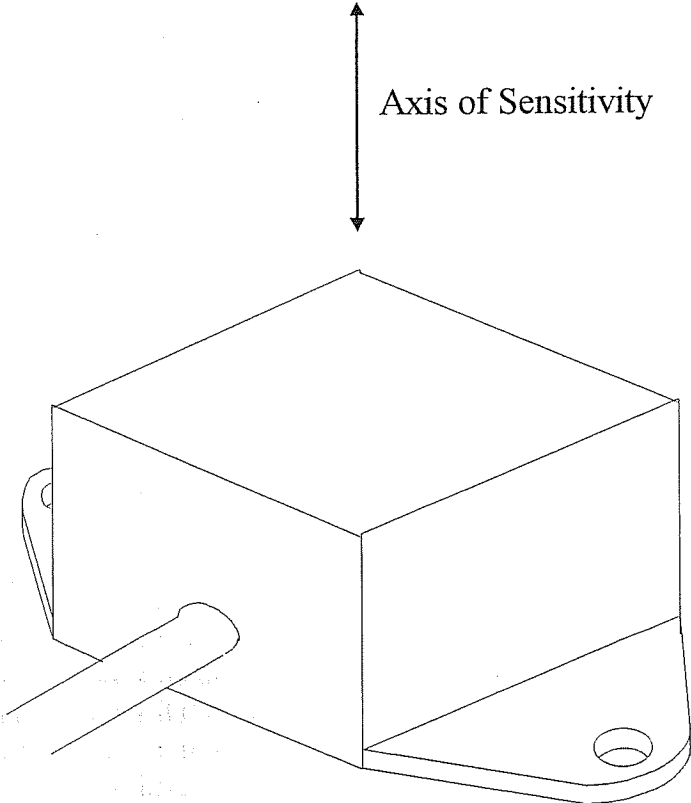

Figure 2. Motion Sensor Axis of Sensitivity
The motion sensor tells the **ATAC** controller how the feeder is performing. The sensor must be mounted so that the axis of sensitivity is aligned with the motion of the feeder. That is, the sensor must vibrate along its Axis of Sensitivity. This is depicted in figure 2. For a bowl feeder, the sensor should be mounted near the perimeter of the bowl with the direction of the mounting screws (axis of sensitivity) pointing in the direction of parts flow.
1. Mount the motion sensor near the bowls perimeter with the proper orientation (figure 2).